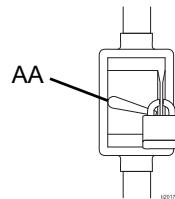

FIG. 12: Electrical Disconnect
NOTE: Ensure that the electrical disconnect (AA) is shut off and locked out before wiring. See FIG. 12.